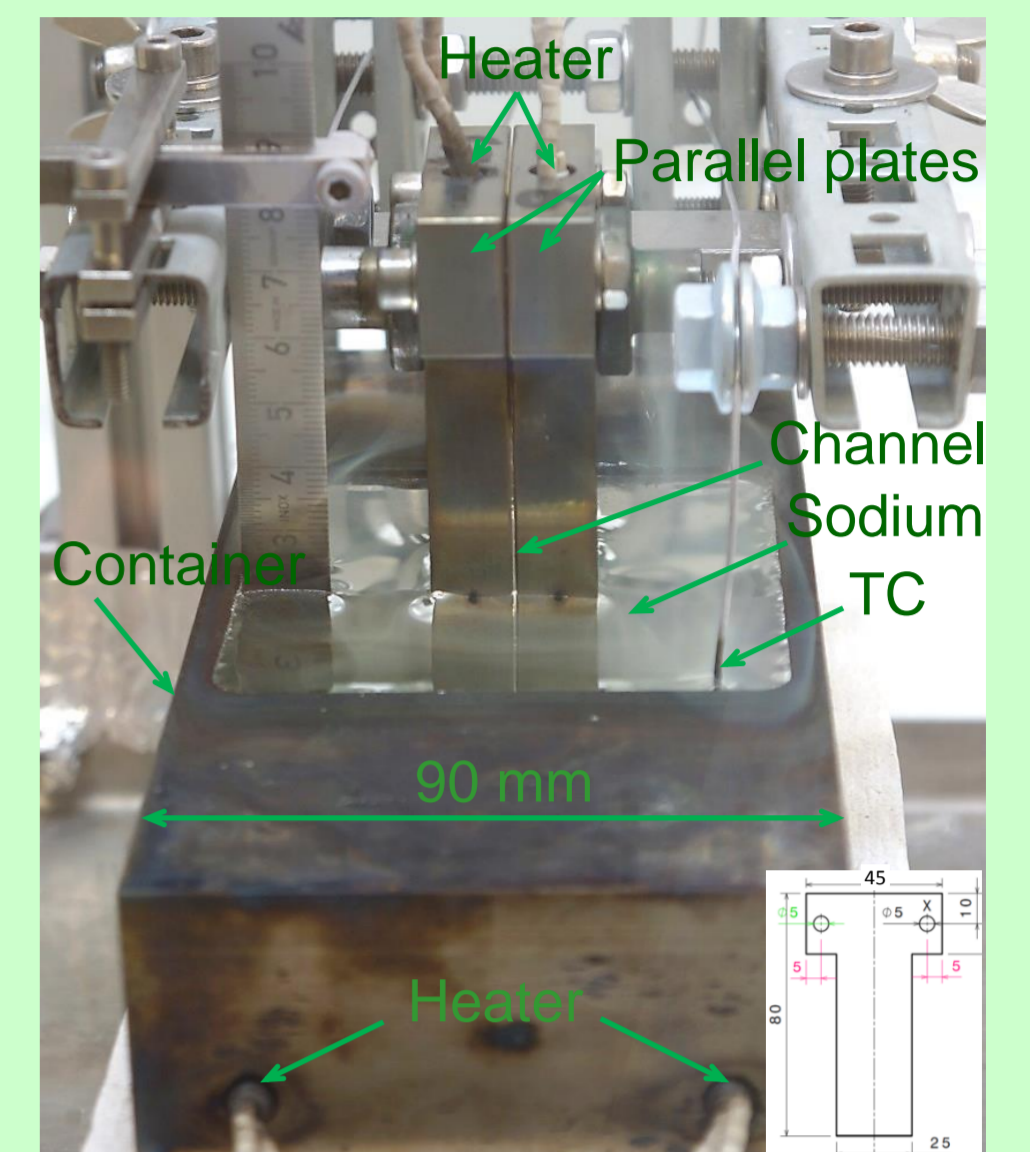

Fig.2. Wettability testing setup.
- The setup, in Fig. 2, consists of: (i) container made of 316L stainless steel, (ii) two parallel plates, (iii) four cartridge heaters, (iv) four thermocouples, (v) metallic ruler, and (vi) various supporting parts.